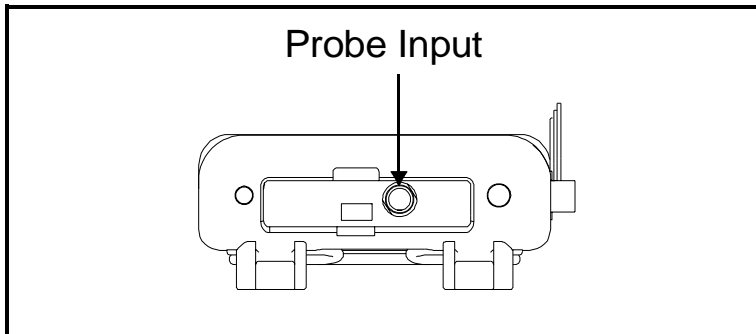

Figure 2-2: Connection Locations
3. Connect the other end of the probe cable to the top of the unit by aligning the red dot on the cable connector at the 12 o'clock position. See Figure 2-2 below for the connector location.